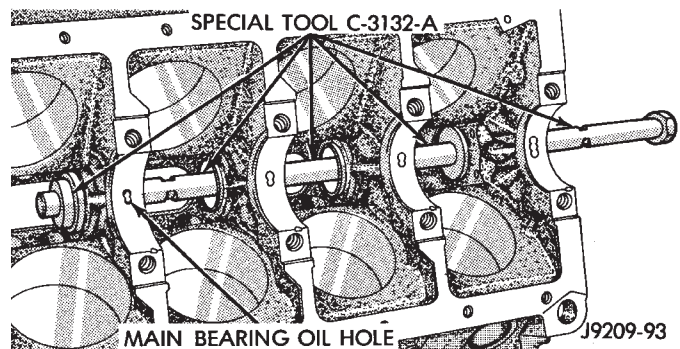

Fig. 33 Camshaft Bearings Removal/Installation with Tool C-3132-A
(1) With engine completely disassembled, drive out rear cam bearing core hole plug.
(2) Install proper size adapters and horseshoe washers (part of Camshaft Bearing Remover/Installer Tool C-3132-A) at back of each bearing shell. Drive out bearing shells (Fig. 33).